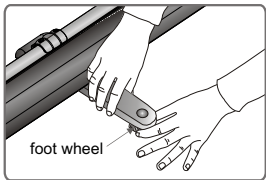

Figure 11
5. Adjust the foot wheel when the ground is not even. To be exact, clockwise rotation raises the foot while counterclockwise rotation lowers the foot, with limits of five circles or within 8mm ( Figure 11 - 12 ).